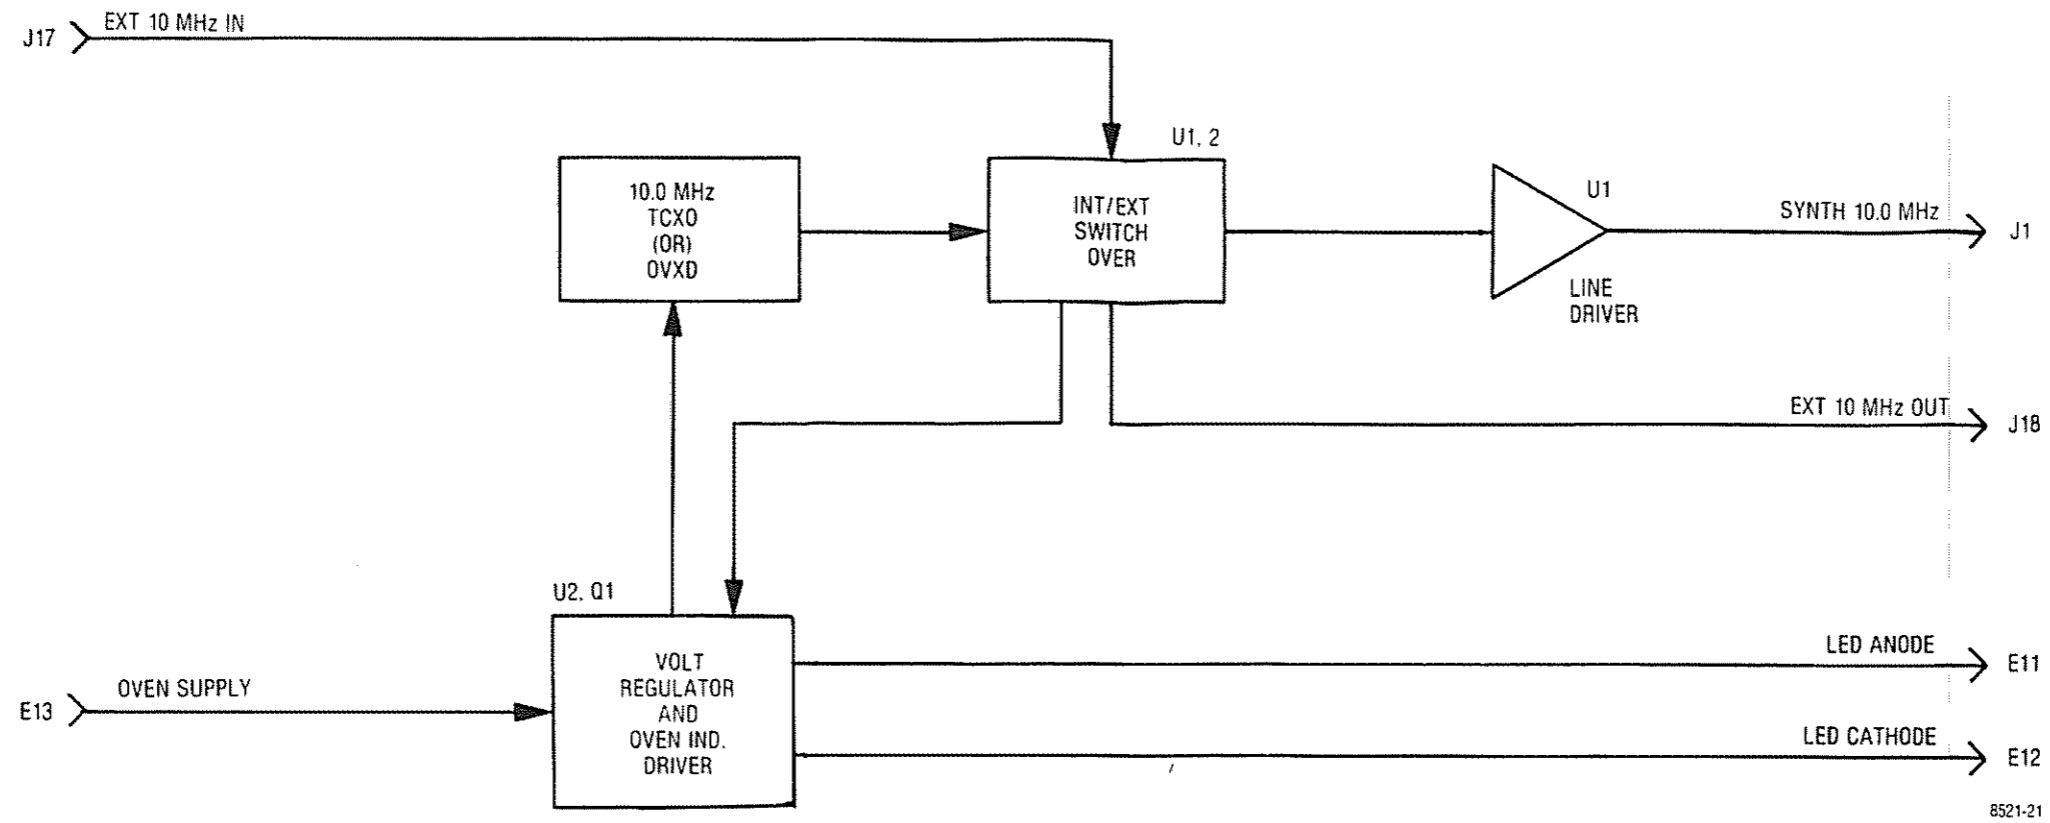

Figure 19-1. Frequency Standard Module A13
**19-1. General.** The frequency Standard Module provides a stable 10 MHz source and the interface for an external 10 MHz input. A block diagram of the Frequency Standard Module is shown in figure 19-1 with its schematic shown in figure 19-2.